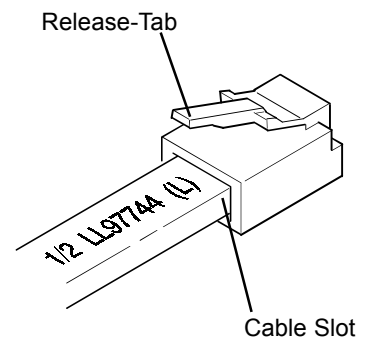

Figure 3: The RJ-12 Modular Plug
ALWAYS make sure the printed side of the cable is facing the release-tab on the RJ-12 Modular Plug (Figure 3). This ensures proper orientation of the plug on each end of the cable.
10. Push down on the release-tab on the RJ-12 Modular Plug (Figure 3) and remove the RJ-12 Modular Plug from the crimping tool.